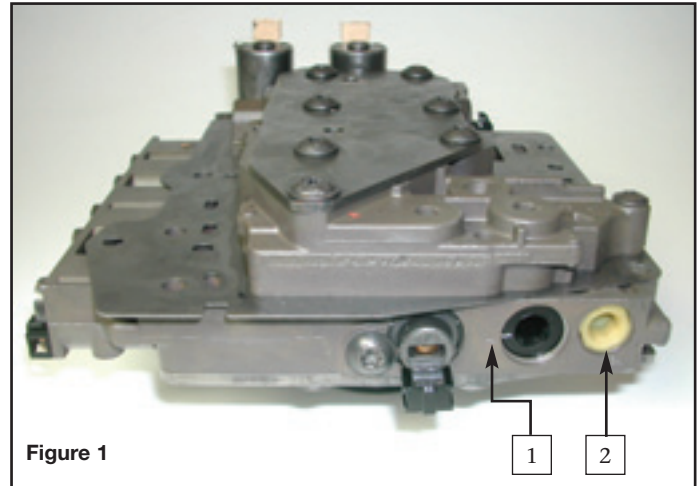

Figure 1
**Step 1:** Place a punch mark on the casting, aligned with the index molded into each plastic plug (see Figures 1, 2 and 3).